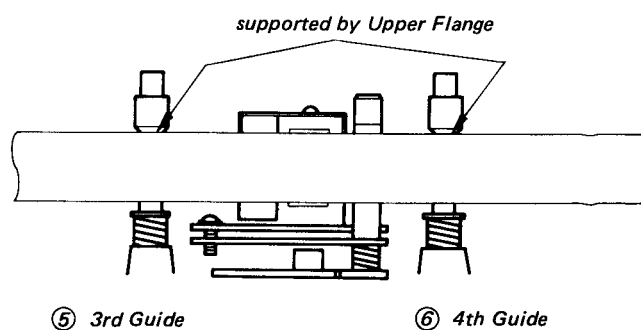

Fig. 5-116 Exit Side Tape Path
→ Proceed Exit guide adjustment. (refer to Fig. 5-116)
5-b. Exit side adjustment (Fig. 5-116)
2. The tilt adjustment screw ⑤ should be adjusted by a half quarter turn since the audio/control head assembly is adjusted critically in the vertical angle.
3. Do not tighten the 4th guide ⑥ too much since the audio level should be varied easily. (see Fig. 5-116)